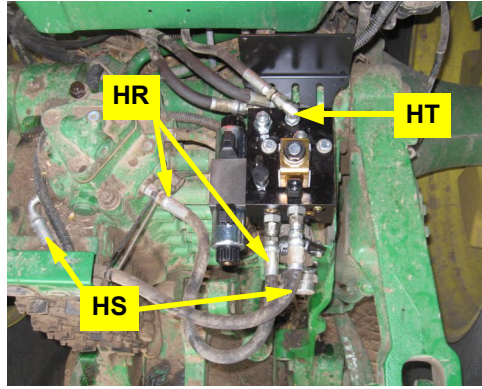

Figure 8a: Installed tank and pressure hoses and LS hose connected at steering block
- a. Install tank hose **HR** and pressure hose **HS** between the tractor test port fittings (Figures 5a-i to 5a-iii) and the **T** and **P** ports of the hydraulic steering block (Figure 8a).
- b. Connect the load sense hose **HT** to the **LS** port of the hydraulic steering block (Figure 8a).